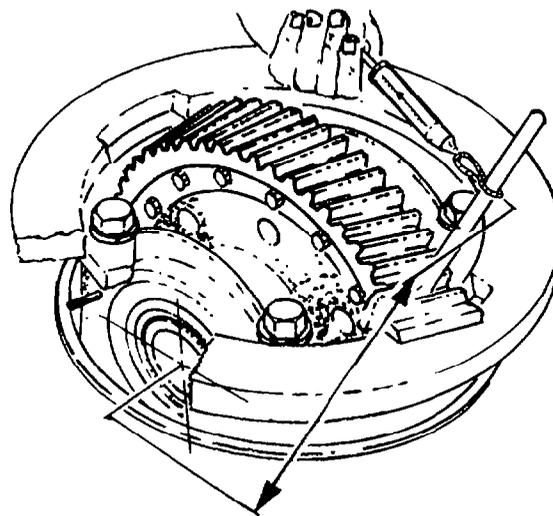

Fig. 337 — Checking Bearing Pre-load
- p. Position a calibrated hooked lever on the bull gear and connect a spring scale to the lever 305 mm (12 in.) from the centre of the bull gear, as shown in fig. 337. Adjust the right-hand bearing with adjusting tool J-26437, while pulling on the scale. The correct pull to keep the differential turning slowly and evenly when the bearings are properly pre-loaded is 0.909 – 1.364 kg (2 – 3 lb).